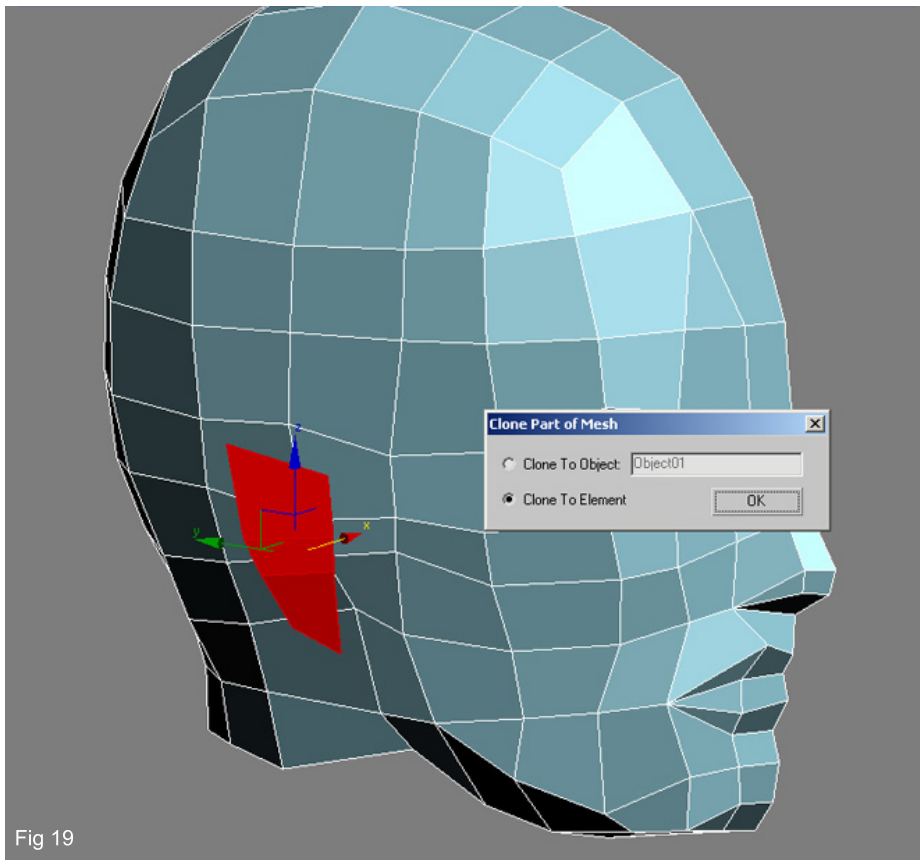

Fig 19
19. Select the three poly's that make up the ear shape and hold down shift and drag the selection outwards. This will create a copy and bring up a "Clone" dialogue box – select the clone to element radio button and hit OK (Fig19). This will keep the new polygons as part of the head and not as a separate object.